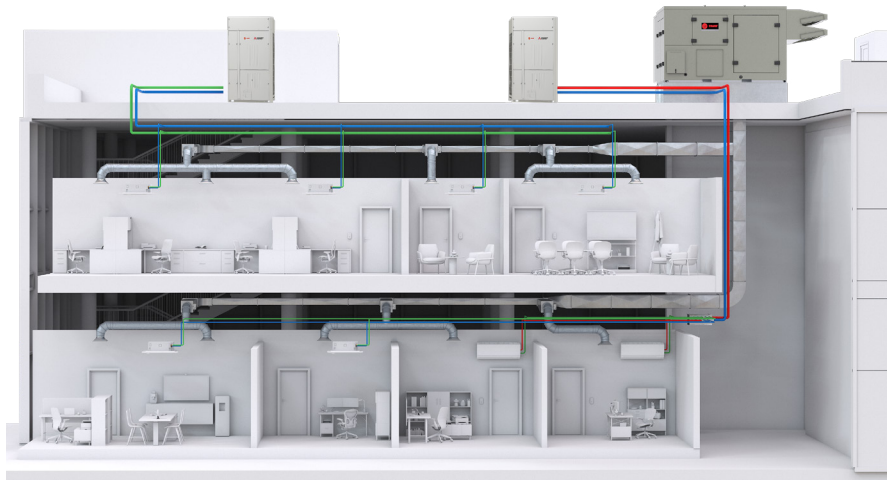

Figure 1: VRF Systems consist of VRF equipment, a dedicated outdoor air system and integrated building controls.
Variable refrigerant flow (VRF) systems include both VRF equipment, consisting of outdoor units and terminal units, as well as a system to distribute conditioned outdoor air for ventilation, like a packaged direct expansion (DX) dedicated outdoor air system (DOAS) (see Figure 1). They have quickly gained popularity